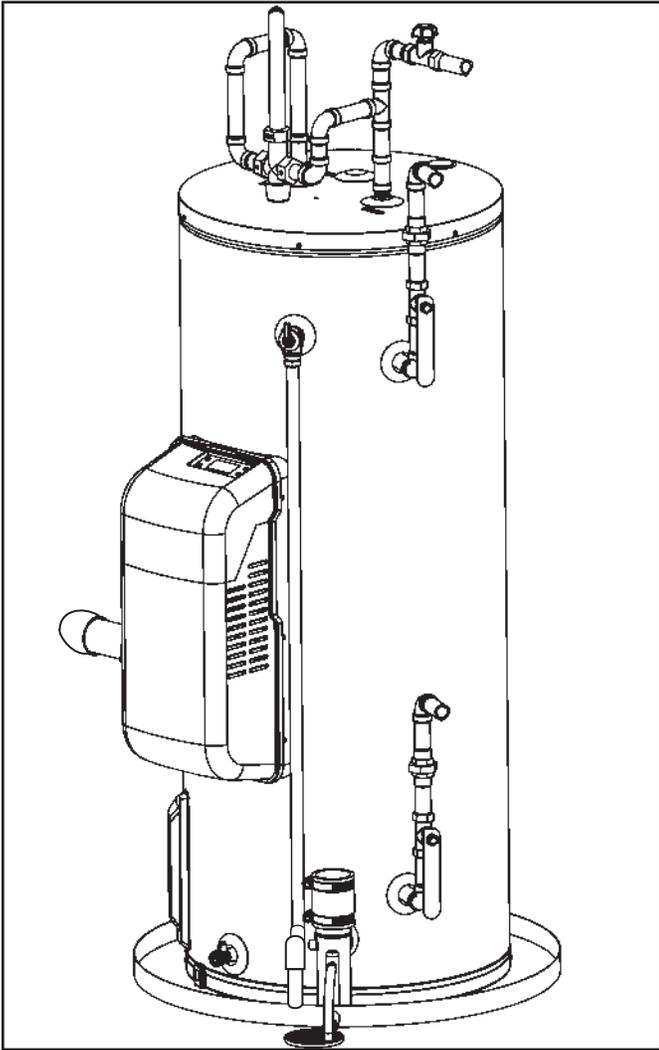

Figure 38. Water Heater with Side Taps for Space Heating
Your water heater is equipped with Combo Heating capabilities with the two side plumbing taps **PLUGGED** (items 24 and item 29 in *Features and Components* (page 8)). See also *Figure 38* (page 32). If the heater is to be operated using the side taps for combo heating, these plugs must be removed.